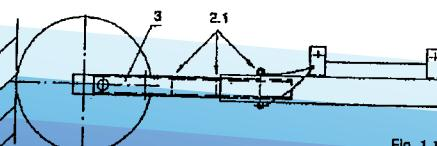

Fig. 1.1
- a. Fit the TIRAK hoist (4) with the motor turned upwards, to the mast (1) and base frame (2).
- b. Stabilise the equipment by fitting the roller assembly (3) into the base frame (2). Lock it into position using the clip pin (2.1). The base frame (3) has three holes, to allow adjustment of the distance between the SOLSIT and the facade (Fig. 1.1).
- c. Fix the frame supports (6) for the buckets. Fit the 2 buckets (5).
- d. Fit the BLOCSTOP BSO (7) to the mast (1).
- e. Fix the upper limit switch(es) (8 / 8.1) to the top of the mast (1).